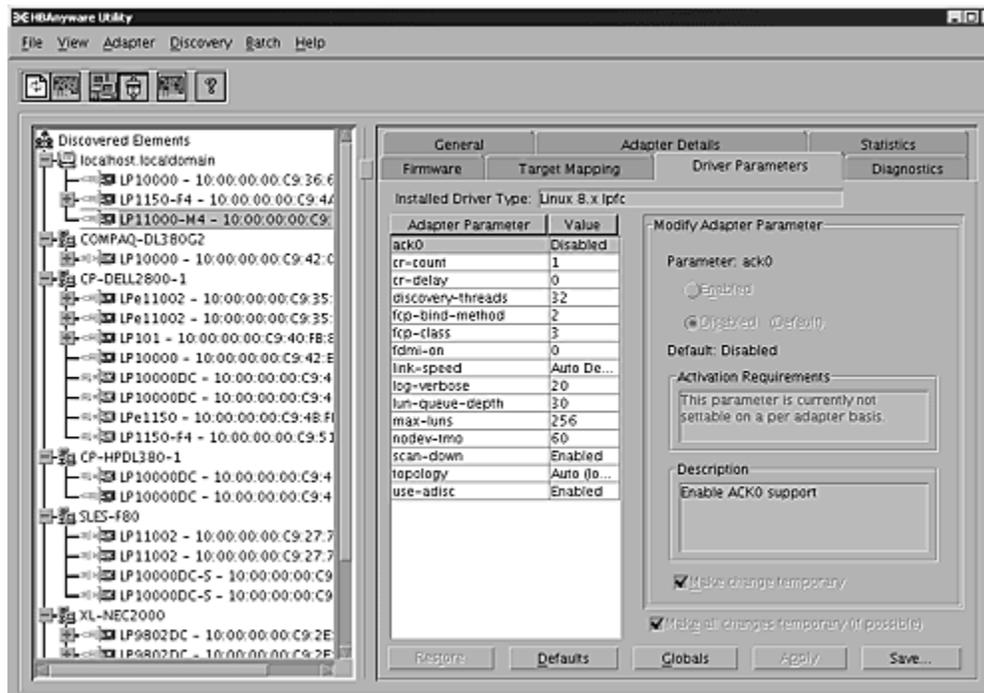

Figure 28: HBAAnyware Utility, HBA Selected - Driver Parameters Tab
4. Select the Driver Parameters tab (see Figure 28). The parameter values for the selected HBA are displayed.
3. Select the Driver Parameters tab. Set driver parameters (see Figure 28 on page 90).